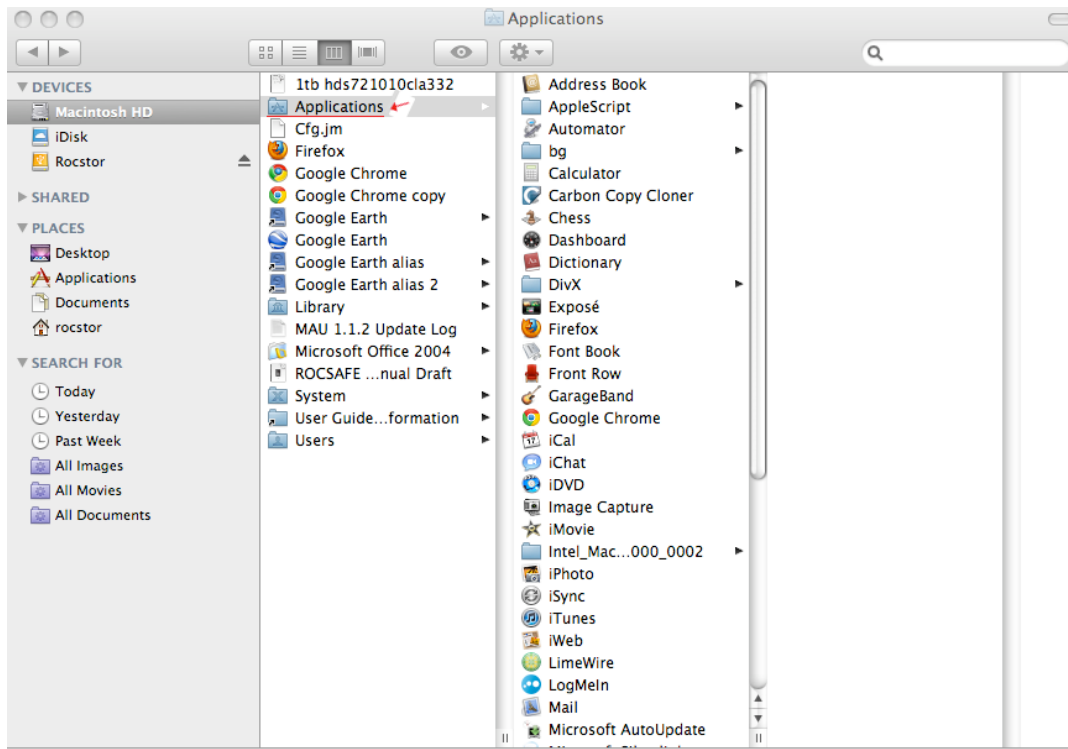

Figure 2.0
3. Once the icon appears on the “Desktop” click on the “Macintosh HD” icon (figure 2.0)